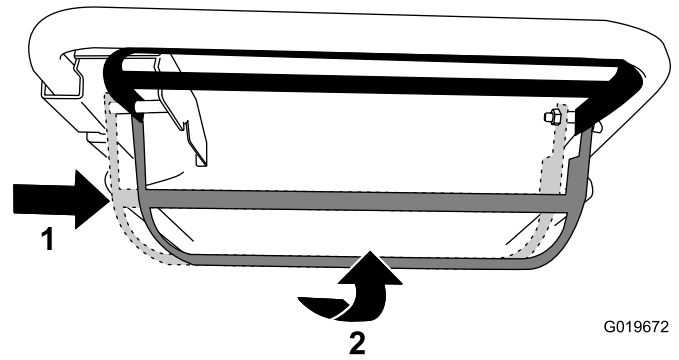

Figure 14
- **To operate the self-propel drive and engage the blade:** Move the blade-control bar all the way to the right and raise it to the handle (Figure 14).